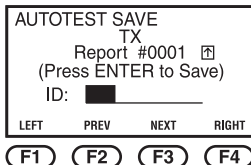

Figure 5-17. Saving Autotest reports.
1. On the Main Unit, press the **F4** button or the **ENTER** button on the Autotest Summary screen, any Autotest Loss screen, or any Margin screen. The Fiber Meter automatically assigns a sequential report number. You can press the up- and down-arrows keys to change the report number. See Figure 5-17.